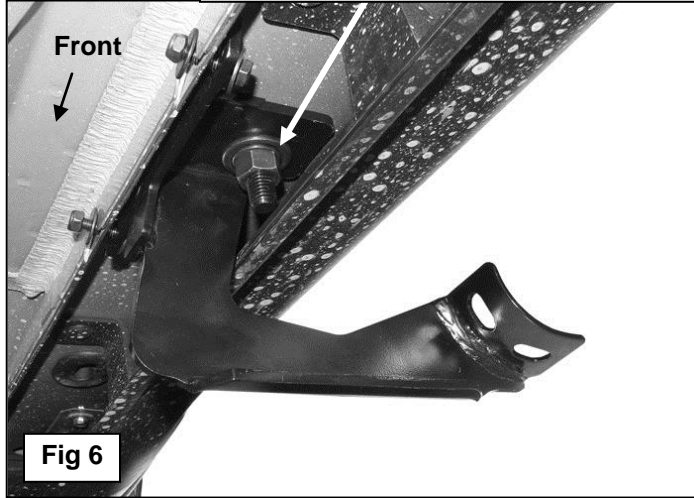

Fig 6
3. Select (1) Mounting Bracket and hang it from the Bolt Plate with (1) 12mm Flat Washer and (1) 12mm Flange Nut, (**Figures 6 & 7**). Next, bolt the mounting plate on the Bracket to the front of the pinch weld with (2) 6mm x 25mm Hex Bolts, (4) 6mm Flat Washers and (2) 6mm Nylon Lock Nuts. Snug but do not fully tighten hardware at this time.